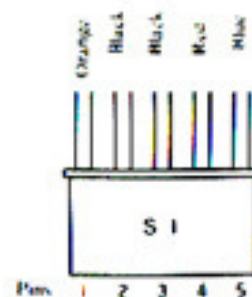

Figure 8-1
- ① Disconnect connector S1 from the main PC board.
- ② Check the voltage between pins 1 and 2 (pin 2 is the ground). If voltage is DC 12V ~ DC 15V or more, it is normal. If it is not normal, replace the power supply PC board. If it is 0V, check F202.
- ③ Check the voltage between pins 3 and 4 (pin 3 is the ground). If it is between DC 4.75 and 5.25V, it is normal. If it is not normal, replace the power supply PC board. If it is 0V, check F201.
- ④ Check the voltage between pins 3 and 5 (pin 3 is the ground). If it is more than DC 10V, it is normal. If it is not normal, replace the power supply PC board (refer to figure 8-1).